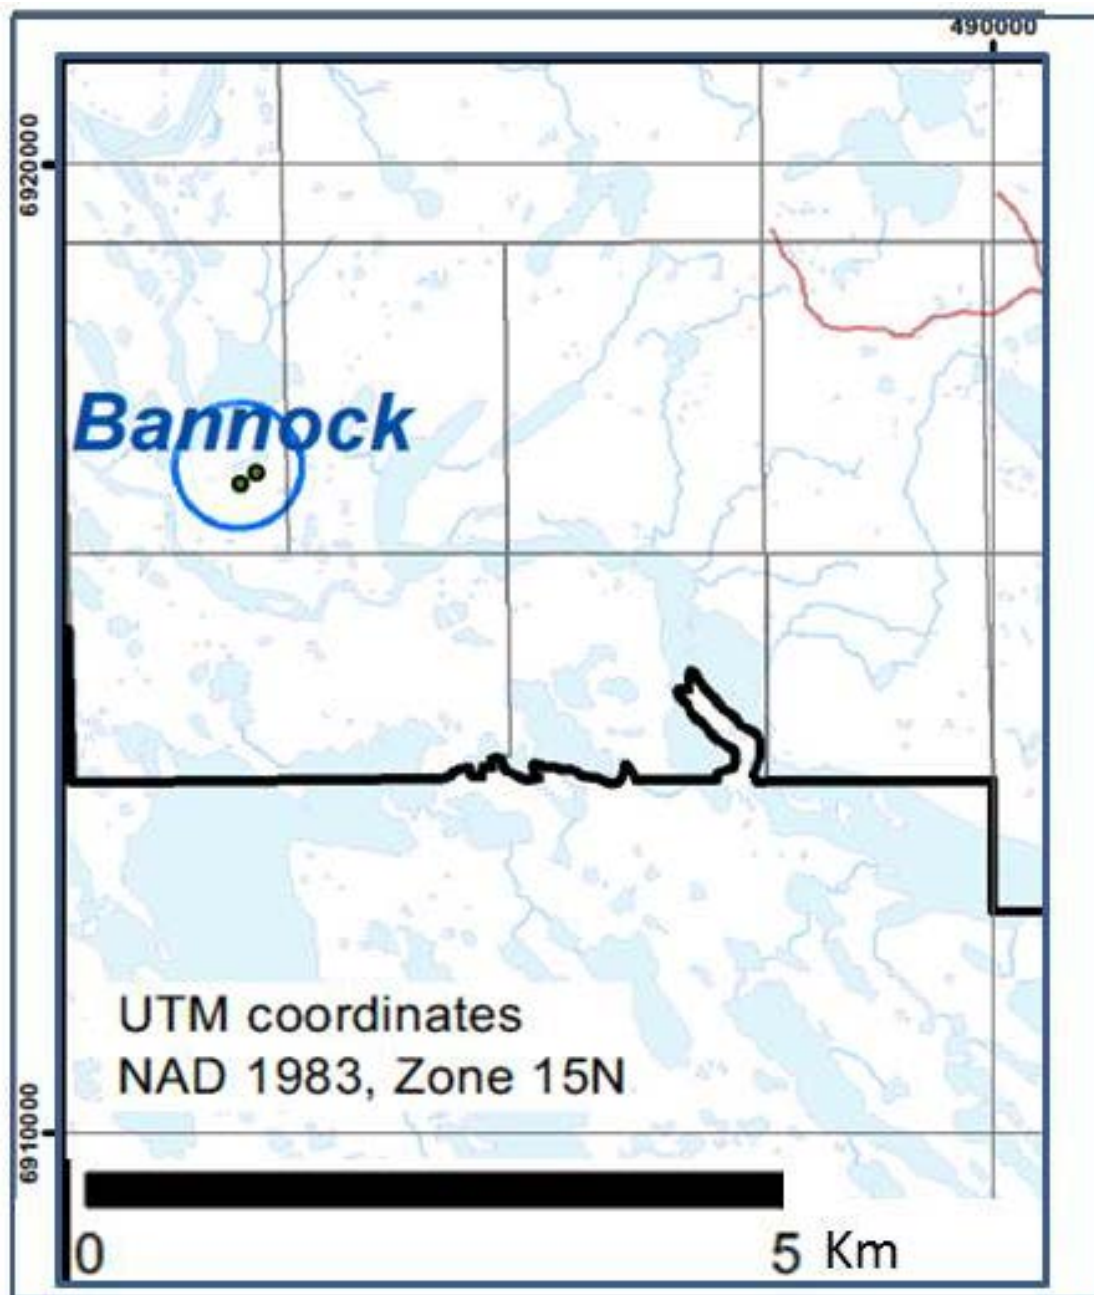

Figure 14. Map illustrating the Bannock Prospect drill sites.
- Figure 14. Map illustrating the Bannock Prospect drill sites.
| • Bannock | Drill holes illustrated on Figure 14 |